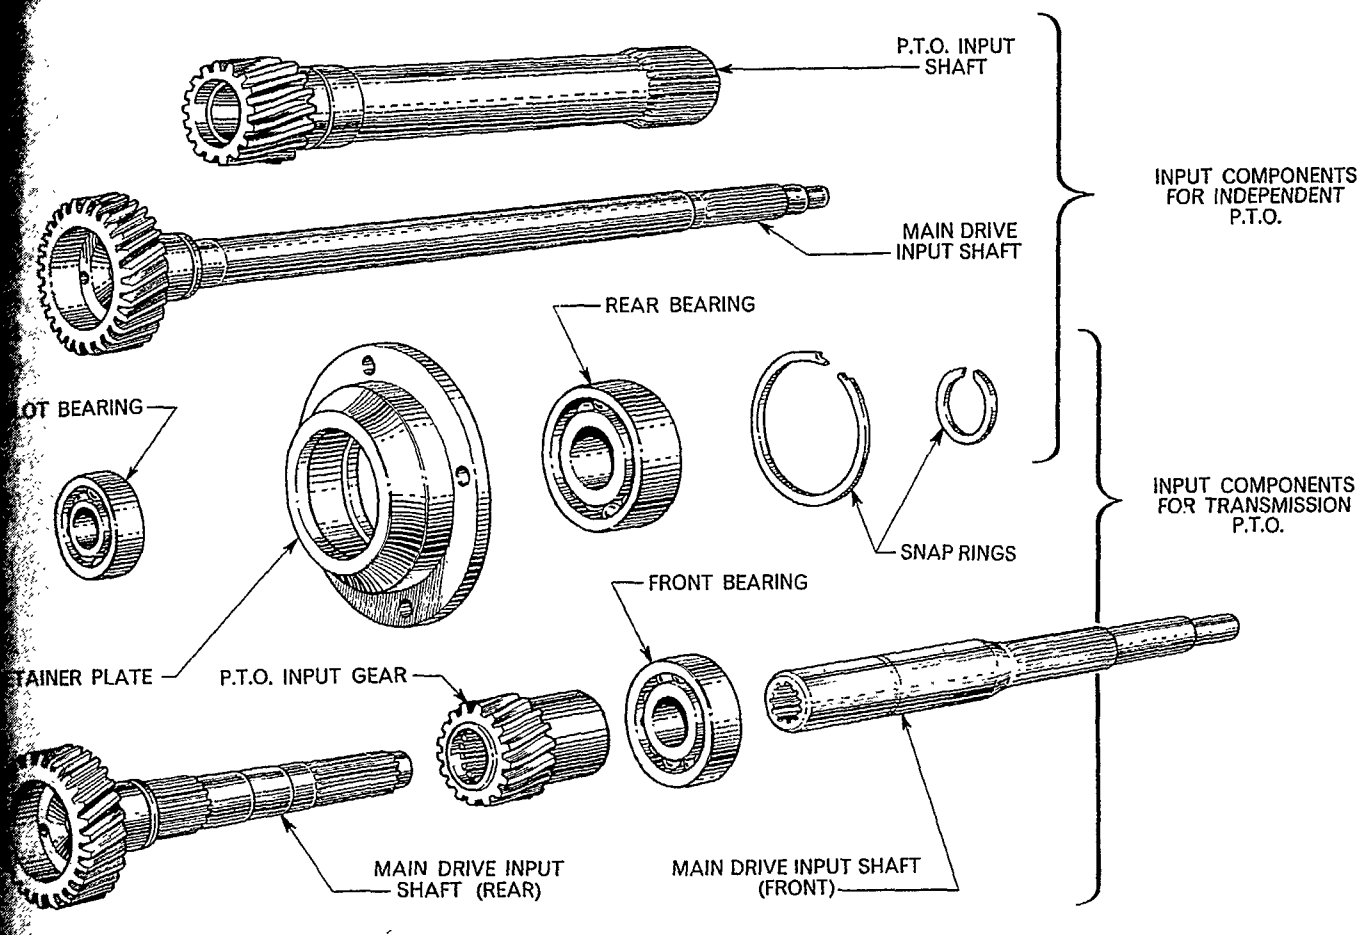
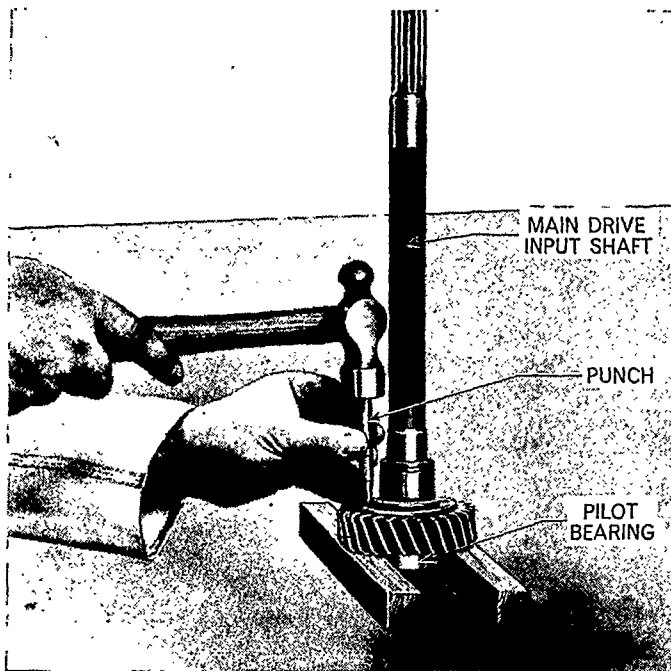

Figure 11
Figure 18
3. The main drive input shaft has a bigger gear compared with the Dexta/Super Dexta. (See Specifications, Chapter 3.) This necessitates a bearing retaining plate, Figure 11, to allow assembly and disassembly of the input shaft. The front half of the main countershaft cluster gear, Figure 50, is correspondingly smaller than that in the Dexta/Super Dexta transmission, Figure 49.
5. The P.T.O. input gear is splined on to the main drive input shaft providing a drive to the P.T.O. countershaft only when the clutch is engaged. The main drive input shaft is composed of two pieces splined together. This allows the P.T.O. input gear and front bearing to be removed and installed, Figure 11.
- f. Remove the four self-locking bolts and withdraw the input shaft, retainer plate and bearing, Figure 11, as an assembly. The Dexta/Super Dexta has no retainer plate and the input shaft is removed as described in Step 9.
NOTE: On Transmission P.T.O. (Major 4000), the input shaft consists of two sections splined together, Figure 11. The rear section of the shaft has the P.T.O. input gear splined to it, the gear being retained by a ball bearing located in the hub support. The front section usually remains in the clutch assembly when the tractor is separated.
3. Examine the pilot bearing, Figure 11, and if necessary locate a small punch in the holes through the gear, Figure 18, and drive the bearing from its location.
2. Inspect the rear shaft, P.T.O. input gear, the retainer plate and the bearings, Figure 11. If necessary remove
6. If necessary, locate a small punch in the holes through the gear and drive out the pilot bearing in the same manner as that illustrated for the Independent P.T.O. transmission, Figure 18.